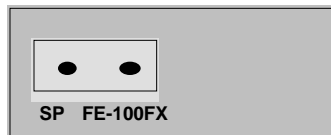

Figure 1-3. FE-100FX PIM.
- FE-100FX (see Figure 1-3). The FE-100FX allows Fast Ethernet connectivity using multi-mode fiber optic cabling with SC connector.